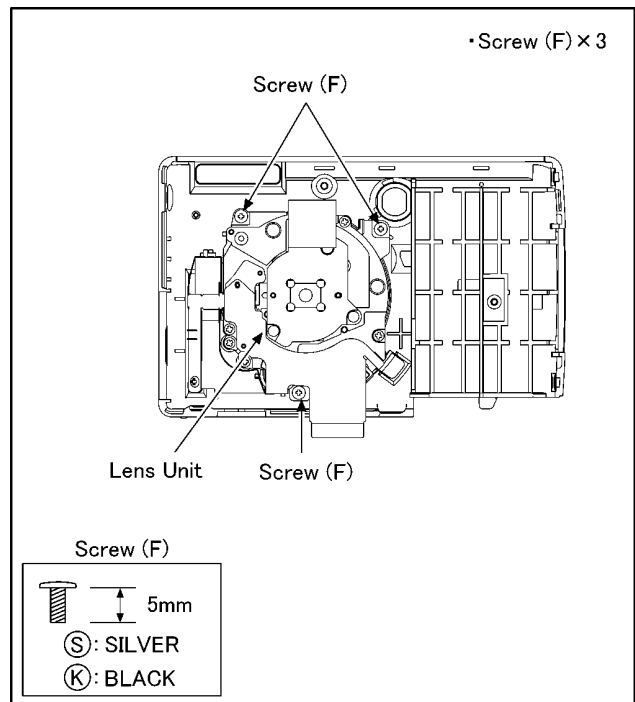

Fig. D9
| 8   | Lens Unit        | Fig. D9            | 3 Screws (F)Lens Unit   |